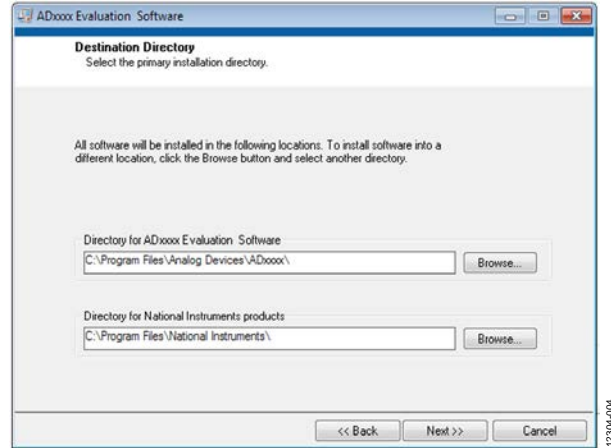

Figure 4. Evaluation Software Installation—Destination Directory
4. Select the location to install the software, and then click **Next** (see Figure 4).